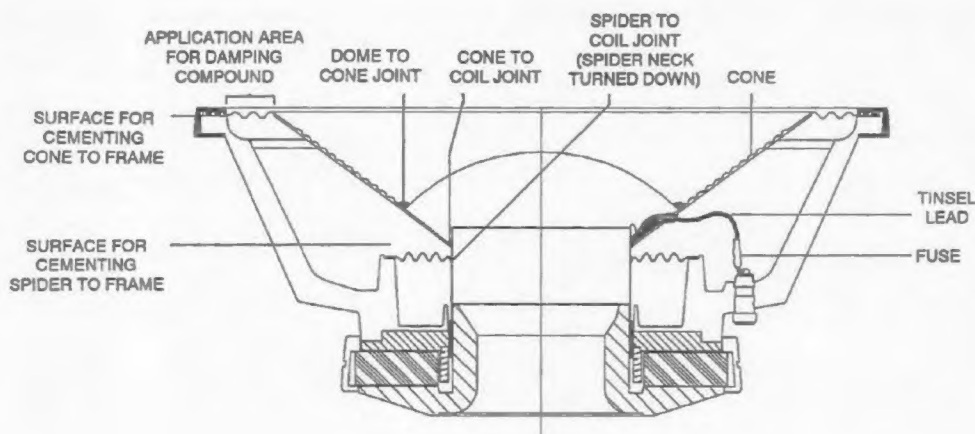

Figure 1. EVX Gluing Instructions
4. Remove the white heat shrink tubing from the fuse that is attached to the positive input terminal (see Figure 1). Check the continuity of the fuse using an ohmmeter. Replace the fuse with a BUSS GFA10 (10A, FAST BLOW) fuse if necessary.
13. Slide the piece of heat shrink tubing (EV #66093B) over the tinsel lead that attaches to the fuse which is connected to the positive input terminal (see Figure 1). Solder the tinsel lead to the fuse using a 10W, 500°F soldering iron. Using an iron of higher temperature may damage the fuse. Slide the tubing over the fuse and shrink using a heat gun.